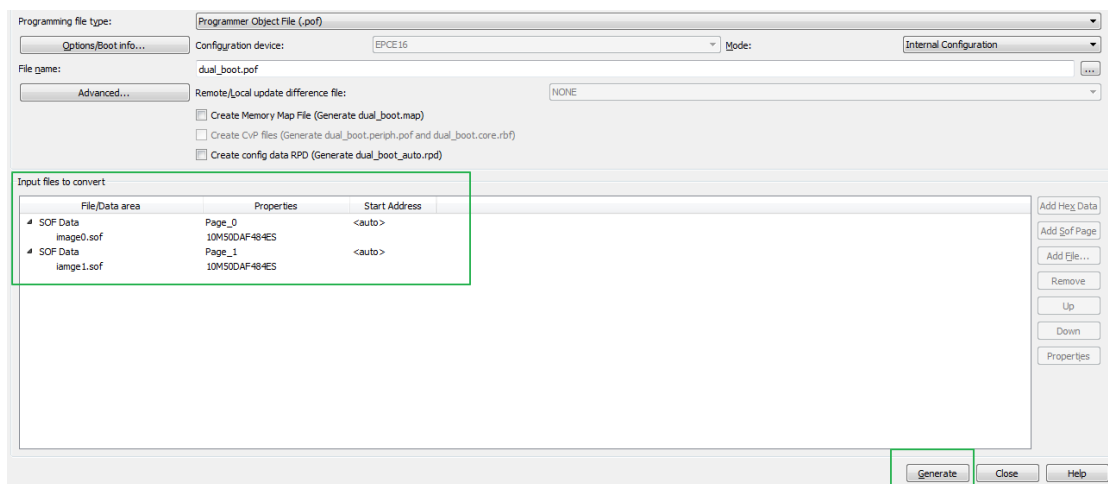

Figure 8-7 Add Sof Files
- In the Input files to convert table, click **Add File** button to choose the sof file for image0. Then press the **Add Sof Page** button and add a sof for image1 as shown in **Figure 8-7**. Click generate button to generate the object file—dual_boot.pof.